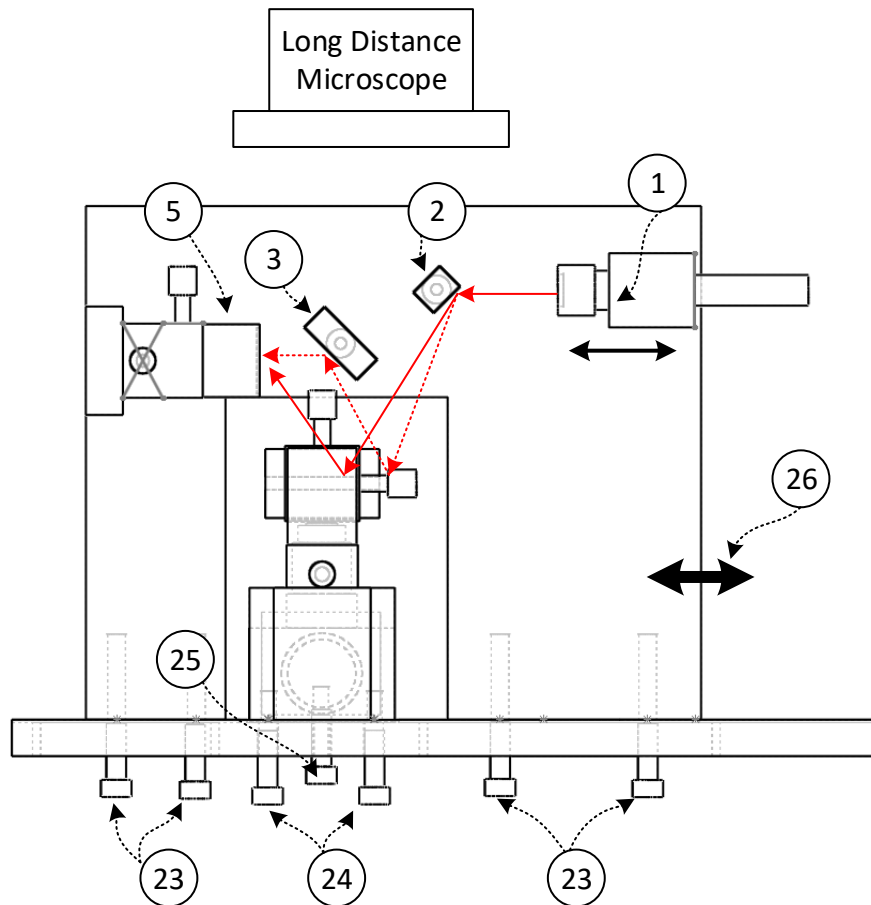

Figure 4-3. Front view of Picomeasure PM-2
- 4.6. Laser beam alignment:** Once the laser beam is sufficiently focused on a microfluidic cantilever, it should be steered properly towards the position sensitive detector – PSD (5). To achieve this, it is critical that the reflected beam falls as close as possible to the middle of the mirror (3). If this is not the case (solid red line in figure 4-3), slightly change the position of the optical head (4) along the line (26) by loosening the screws (23). Translate the optical head right or left, focus the laser and find the reflected beam can be reflected across the length of the PSD.